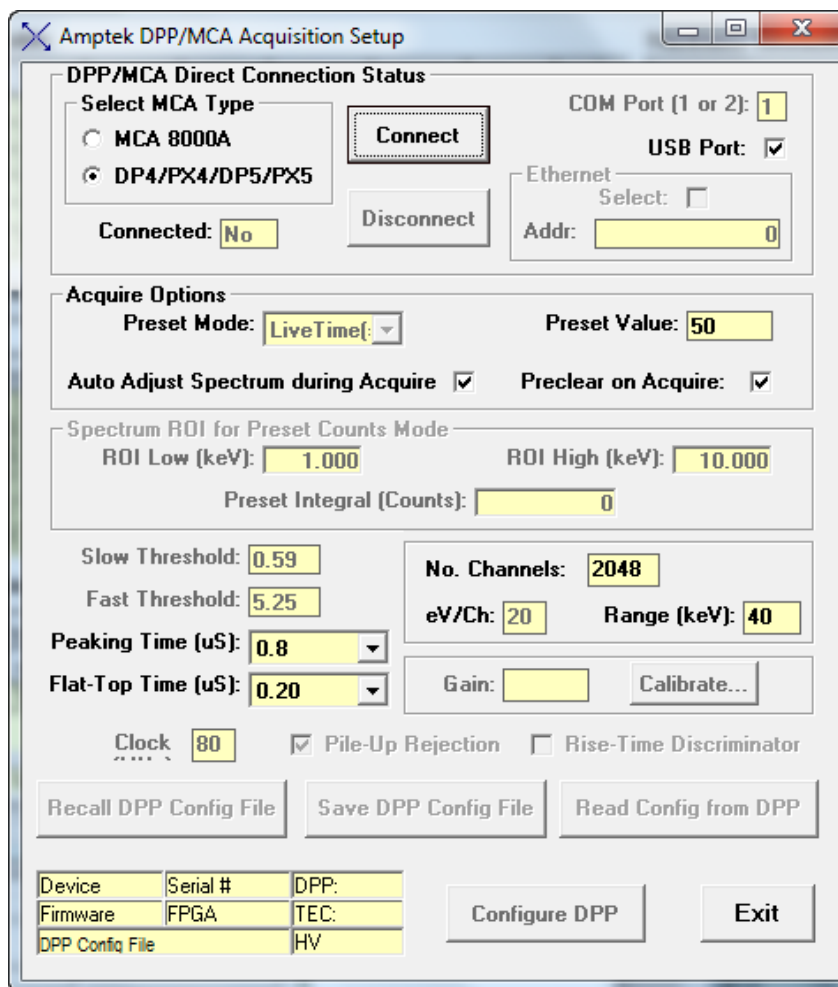

Figure 12. Setup MCA/DPP Dialog. Amptek DPP/MCA Acquisition Setup showing the No. Channels, eV/Ch and Range.
8. From the XRS-FP Expert Panel: Select **Setup** -> **MCA/DPP**. If working offline (without HW) just enter the number of channels, with the eV per channel or range (keV). **If working with HW please see the following document for stepwise details on performing an energy calibration in XRS-FP (with Amptek HW): "XRS-FP How to Calibrate with Amptek HW.doc"**. Note that the two most important parameters involved in the DPP/MCA setup are the number of channels and range. Figure 12 shows the Amptek DPP/MCA Acquisition Setup parameters.